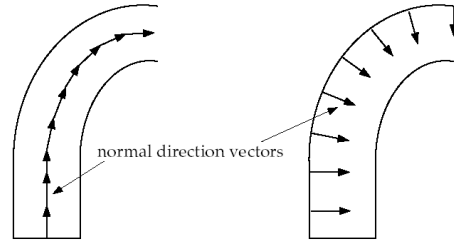

Figure 10.7.2: Normal Direction Vectors for a Curved Prism Region
- **Normal Method:** For regions with curvature, TGrid determines the appropriate normal direction vector at each node, since it may be different for each node and each layer, see Figure 10.7.2. Select **Normal** in the **Method** group box in the **Direct** tab of the **Prisms** panel.